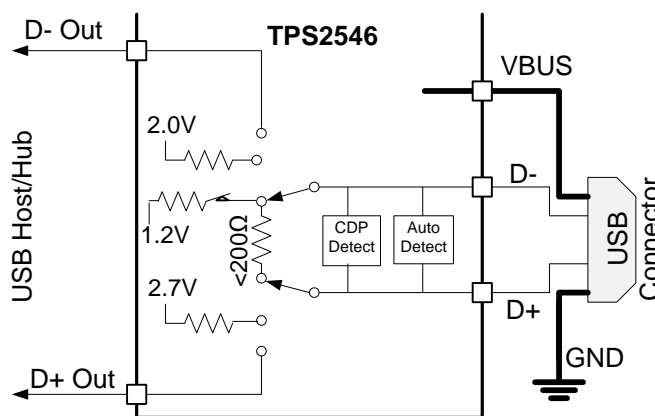

Figure 31. DCP 1.2V Charging Scheme
1.2V charging scheme is used by some handheld devices to enable fast charging at 2.0A. TPS2546 supports this scheme in the DCP-Auto mode before the device enters BC1.2 shorted mode. To simulate this charging scheme D+/D- lines are shorted and pulled-up to 1.2V for fixed duration then device moves to DCP shorted mode as defined in BC1.2 spec. This is shown in Figure 31